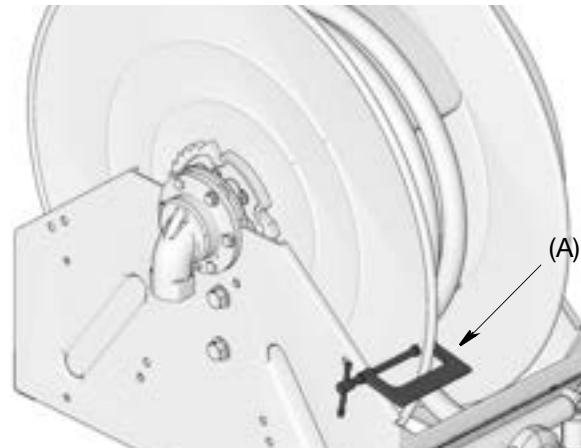

FIG. 13
3. Attach a c-clamp (A) to the reel spool, as shown in FIG. 13, to help prevent the reel from unintentionally becoming unlatched and spinning freely.
12. Securely attach a c-clamp (A) to the reel spool as shown in FIG. 13 to help prevent the reel from unintentionally becoming unlatched and spinning freely.